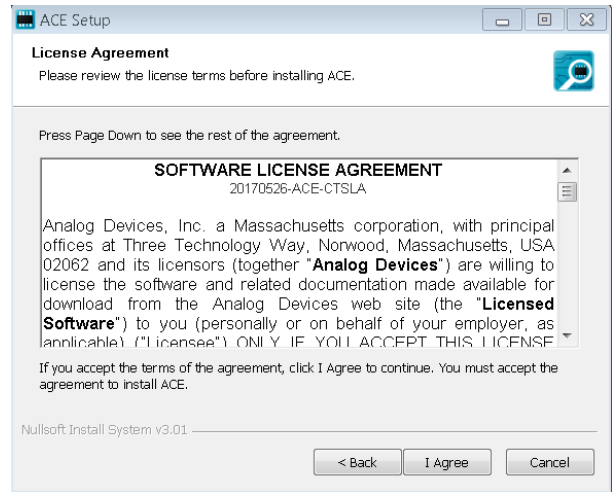

Figure 5. License Agreement
5. Read the software license agreement and click **I Agree** (see Figure 5).